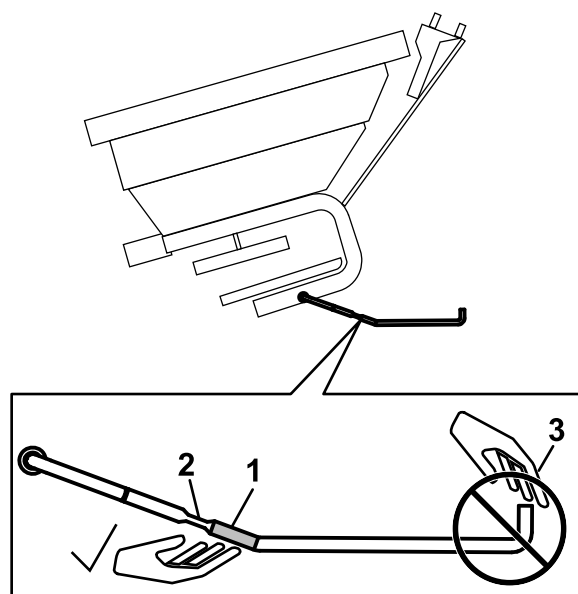

Figure 22
2. Grab the prop rod close to the detent (see Figure 22) and lift it up towards the hopper frame.